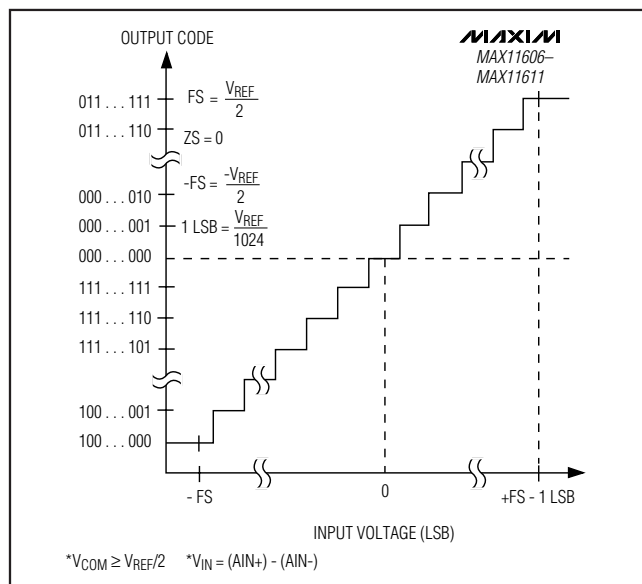

Figure 13. Bipolar Transfer Function
Output data coding for the MAX11606-MAX11611 is binary in unipolar mode and two's complement in bipolar mode with 1LSB =  $(V_{REF}/2N)$  where N is the number of bits (10). Code transitions occur halfway between successive-integer LSB values. Figure 12 and Figure 13 show the input/output (I/O) transfer functions for unipolar and bipolar operations, respectively.